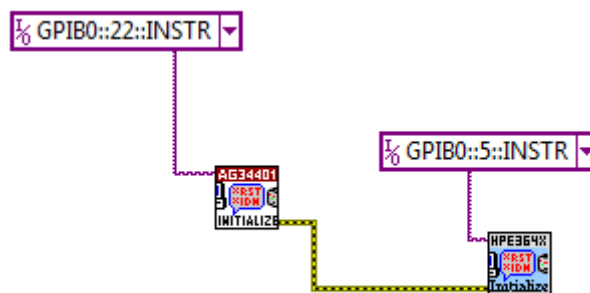

Figure 7. Diagram Schematic
8. Using the wiring tool, connect the error out of Agilent 34401 sub VI to the error in of the HPE364XA sub VI. The results of steps 5-8 are shown in Figure 7. Note the for loop and sequence structures should still be present in your VI block diagram they are just not show in Figure 7.